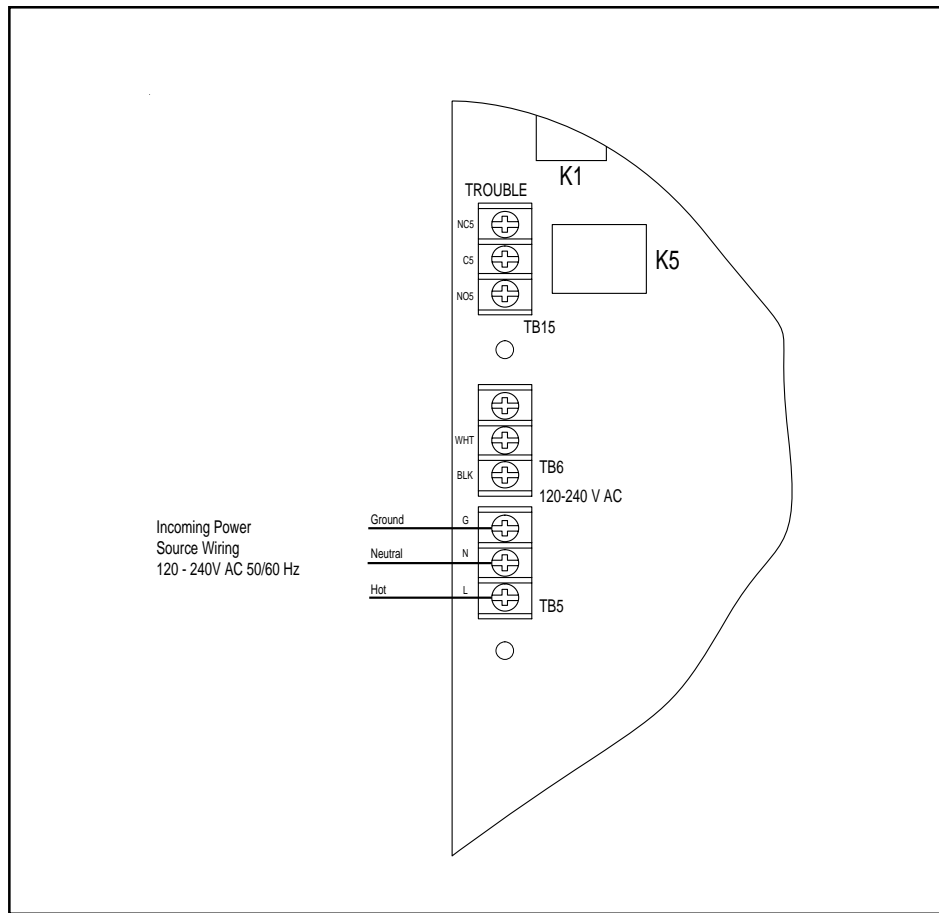

Figure 4. Installing AC Power
- ☐ **Connect AC power and ground.** See Figure 4 and Appendix D or the panel label.